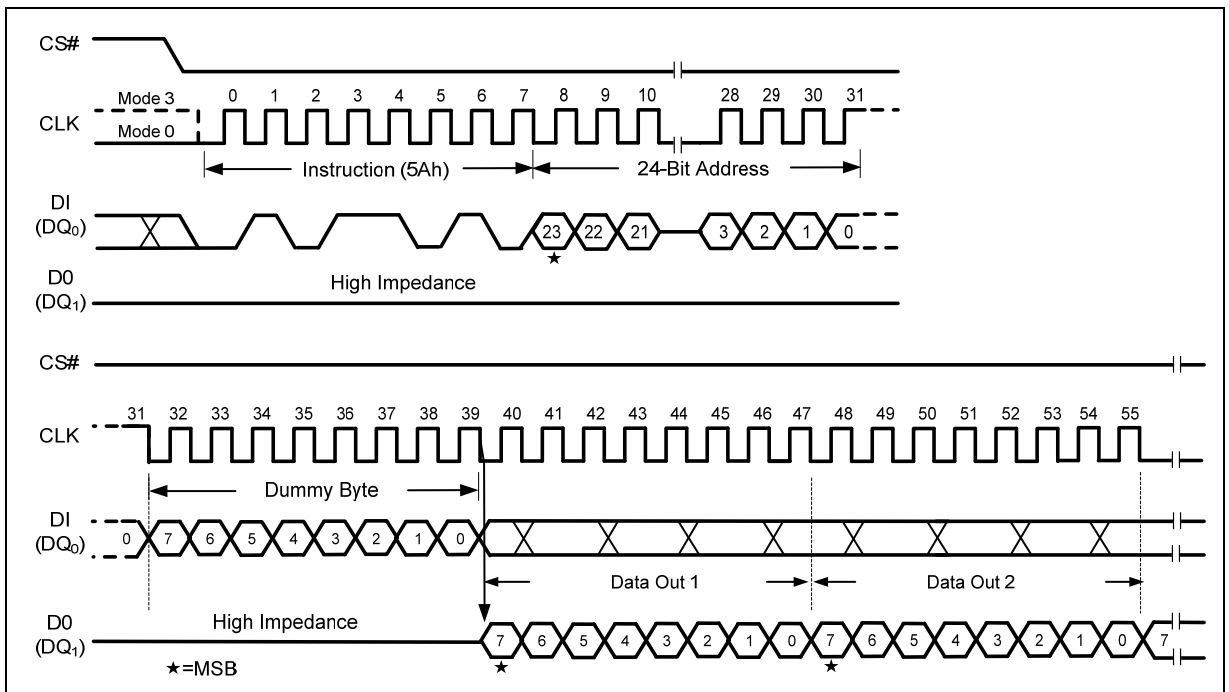

Figure 56 Read SFDP Register Instruction
The Read SFDP instruction is initiated by driving the /CS pin low and shifting the instruction code “5Ah” followed by a 24-bit address (A23-A0)(1) into the DI pin. Eight “dummy” clocks are also required before the SFDP register contents are shifted out on the falling edge of the 40th CLK with most significant bit (MSB) first as shown in Figure 56. For SFDP register values and descriptions, refer to the following SFDP Definition table.